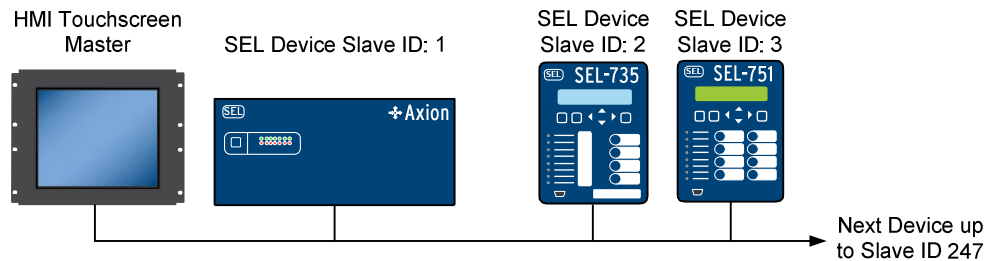
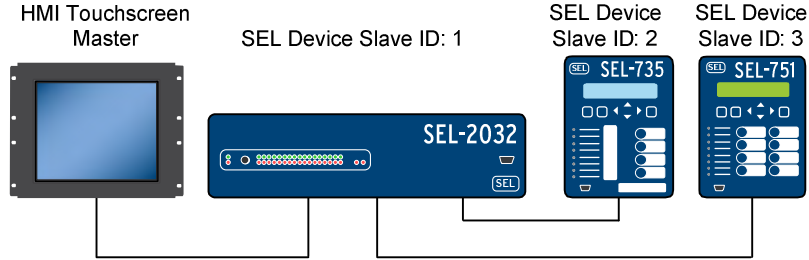

Figure 1 Modbus Serial Network With EIA-485 Interface
Figure 2 Modbus Serial Network With EIA-232 Interface
Modbus serial is a master-slave, multidrop network protocol consisting of one master device and multiple slave devices. In the examples in Figure 1 and Figure 2, the HMI is the Modbus master and the SEL devices are the slaves. The master initiates communication with the slaves in one of two ways: unicast messaging or broadcast messaging. For unicast messaging, the master communicates with one slave at a time, then that slave responds to the master. For broadcast messaging, the master communicates to all slaves at the same time, but the slaves are not required to respond. Also, the Modbus slaves do not communicate directly with each other.
Devices on a Modbus network, such as those shown in Figure 1 and Figure 2, can use either the EIA-232 or EIA-485 serial interface. The engineer assigns a unique station or identification (ID) number to each device on the network. One Modbus serial network can have up to 247 devices with addresses that range from 0 to 247 or 1 to 247 (decimal) for SEL devices. A single physical EIA-485 network can support up to 32 devices before needing a signal repeater.